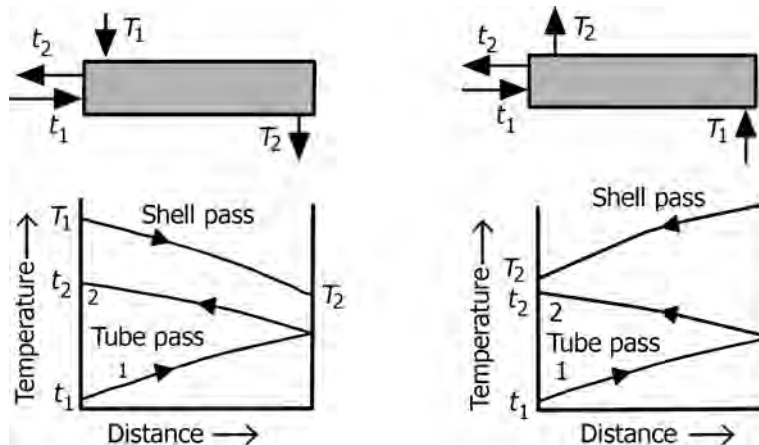

FIGURE 10.39 Temperature profiles for a 1–2 heat exchanger.
- Figure 10.39 illustrates temperature profiles for a 1–2 heat exchanger.